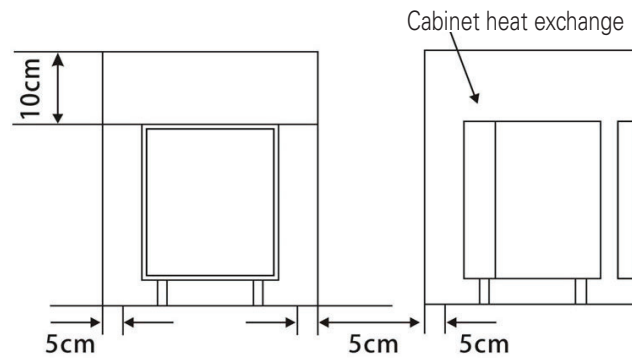

Fig. 1
The proper placement of the refrigerator is shown as figure 1 to keep good heat exchange effect of the refrigerator.
1. The proper placement of the free-standing refrigerator is shown as figure 1